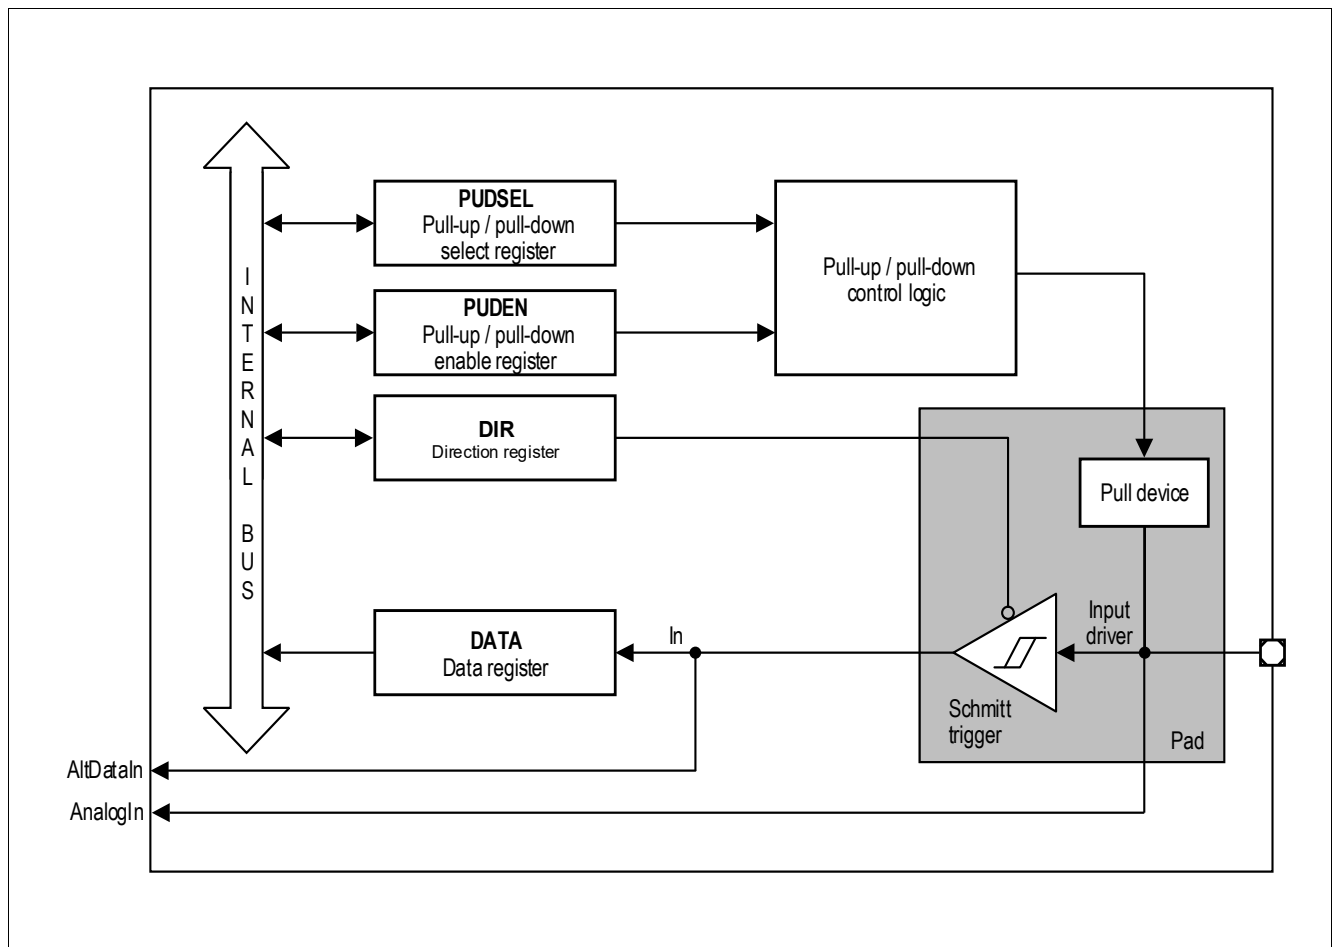

**Figure 16** General structure of a bidirectional port (P0, P1)
**Figure 16** shows the block diagram of a TLE9872-2QXA40 bidirectional port pin. Each port pin is equipped with a number of control and data bits, thus enabling very flexible usage of the pin. By defining the contents of the control register, each individual pin can be configured as an input or an output. The user can also configure each pin as an open-drain pin with or without an internal pull-up/pull-down.